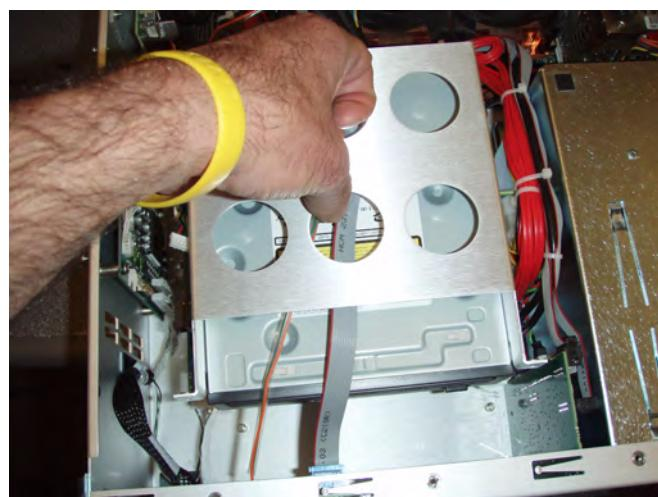

Figure 19 Lift DVD Housing Assembly
15. Gently lift the DVD housing assembly, and slide it to the rear of the DP600, taking care to free the housing from loose cables, as shown in Figure 19.